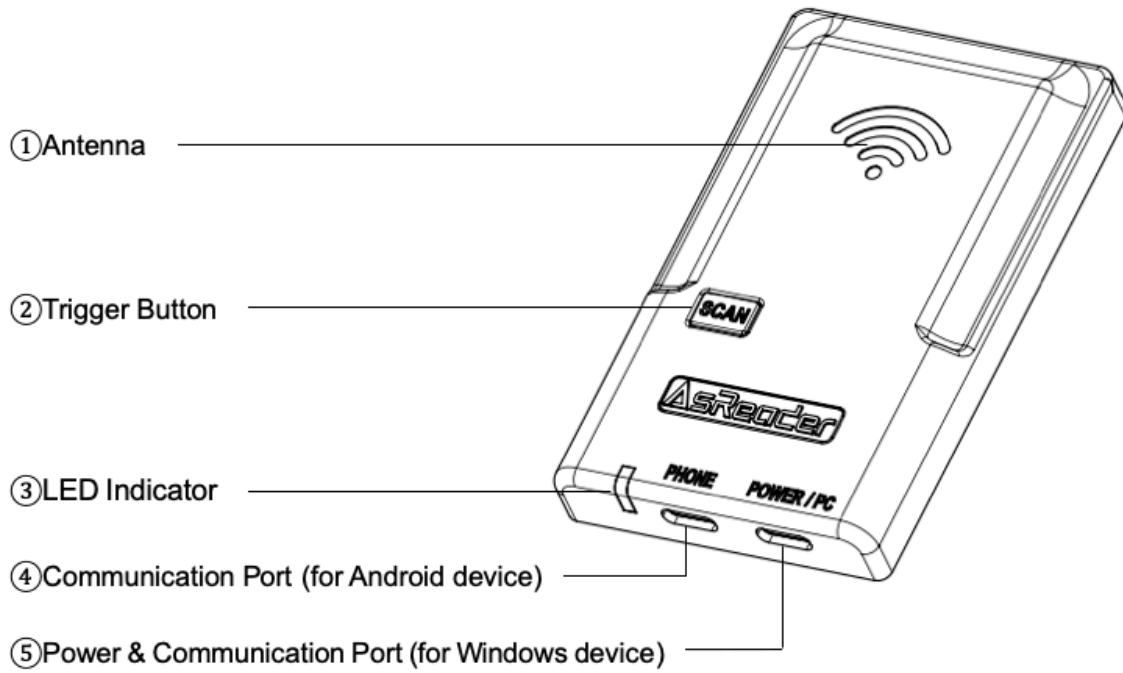

FIG. 1-3-1 Appearance (Front)
Use the USB Type-C data cable to connect the ASR-P35U to a power adapter via the Power & Communication Port (see FIG. 1-3-1\(5\)). The LED Indicator flashes slowly when power on is successful (see FIG. 1-3-1\(3\)) and there will be two buzzing prompts.
When the ASR-P35U is powered on, put RFID tags close to the Antenna of the ASR-P35U (see FIG. 1-3-1①). Press the “SCAN” Trigger Button (see FIG. 1-3-1②), and the blue light flashes quickly. The data will be entered at the cursor on the screen of the Android, Windows or iOS device. Press the Trigger Button again to stop reading.
3. Connect the Android device and the ASR-P35U with USB Type-C to USB Type-C data cable via the Communication Port (see FIG. 1-3-1\(4\)). The LED Indicator stays ON when the connection is successful.
4. When using the Android device while charging, please connect the USB hub to the Power & Communication Port (see FIG. 1-3-1⑤) of the ASR-P35U using the USB Type-C to Type-C data cable, and then connect the USB hub to the Android device. In this way, you can charge the device using the charging port of the USB hub and use the ASR-P35U at the same time.